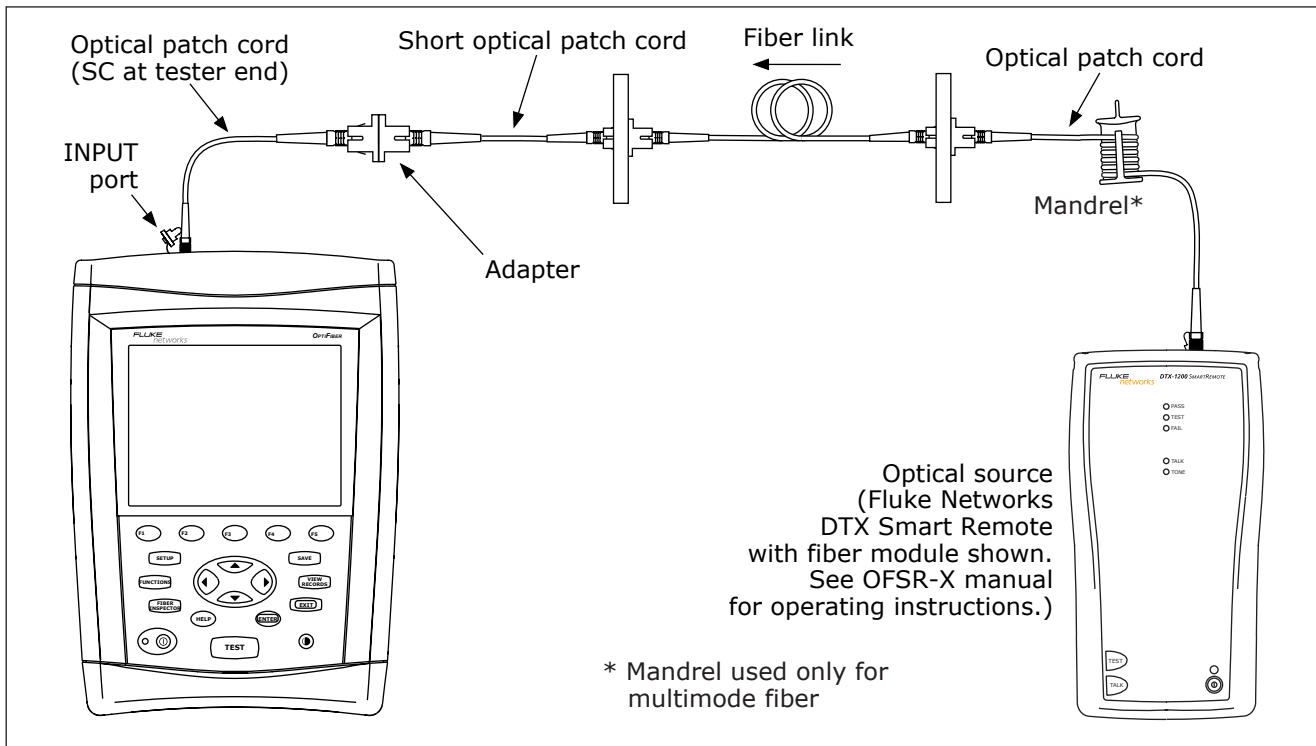

Figure 29. Far End Source Mode Test Connections
- 8 Clean the connectors on the cabling to be tested; then connect the reference patch cords and the short patch cord to the cabling, as shown in Figure 29.